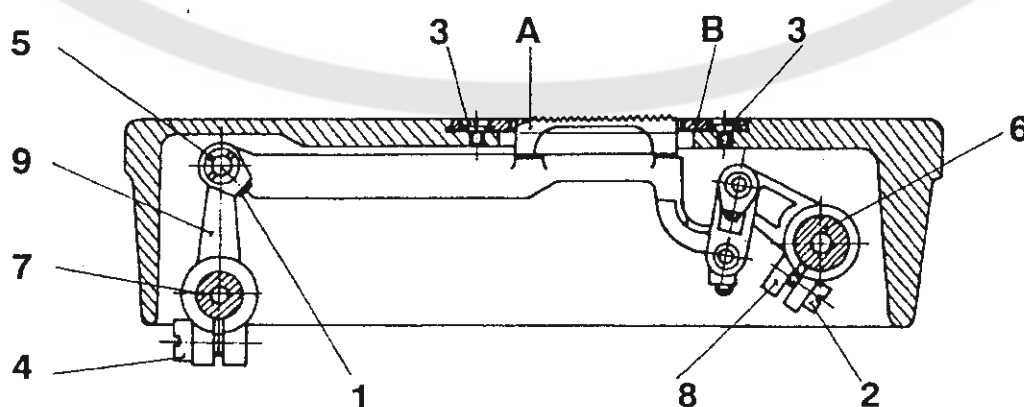

Figure 8
4. To adjust the feed-dog height above the throat plate (Fig. 8)
6. To adjust the throat plate (Fig. 8)
11. To adjust the elliptical path of the feed-dog movement (Fig. 8)